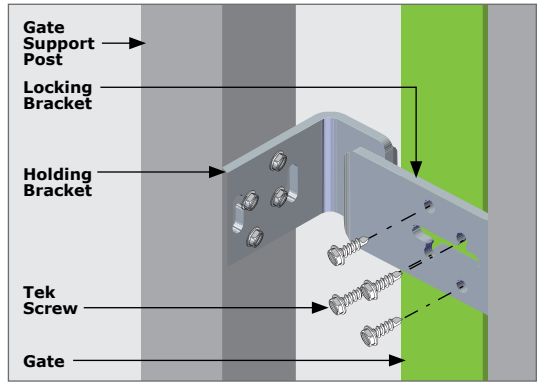

FIGURE 14. SUPPORT POST - FASTENERS
- Using four M6 high-quality Tek screws to mount the **Locking Bracket** onto the Gate. Four 7mm Position-securing Holes have been provided. See Figure 14.